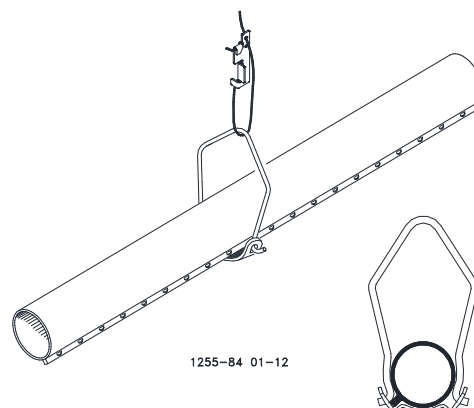

Figure 25. Hanger Installation
3. To achieve total feed drop out all along the system, the Chore-Time Logo should be centered at the crown of the tubes and all the Hangers should be installed as shown in Figure 25.